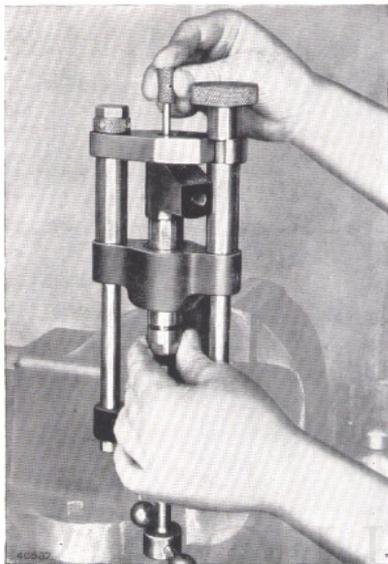

Fig. 68. Bouncing the needle valve on its seat.
5. Tighten the lock-nut slowly and carefully with the fingers, at the same time using the 3BA rod to bounce the needle valve rapidly on the nozzle seat (Fig. 68).